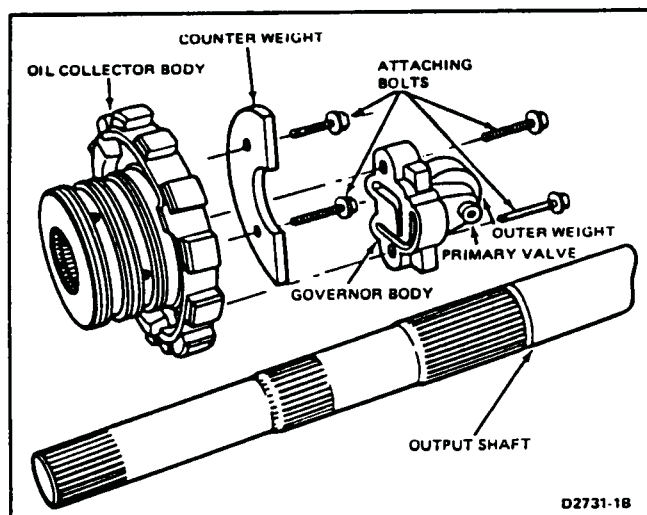

FIG. 36 Governor Components
1. Remove governor body-to-oil collector body attaching bolts (Fig. 36).